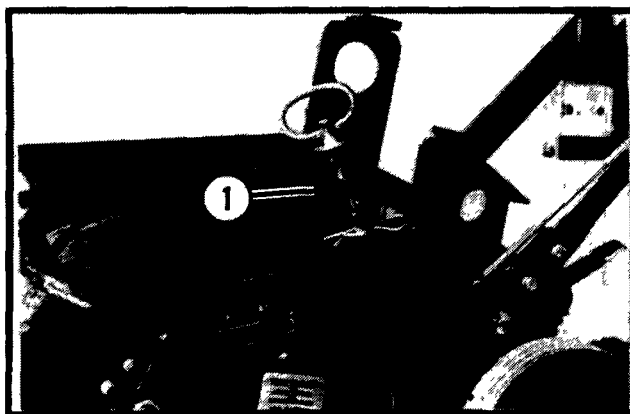

Figure 11
4. Holding the hitch end of the tote trailer push trailer to the aerator and tipping the trailer back, center the Lawnaire IV between the mounting masts. Align the center holes on the mounting masts with the hole in the center of the Lawnaire IV frame (where weight bar was located). Once holes are aligned, slide the locking shaft through from the right side and secure the locking pins (See Figure 11).